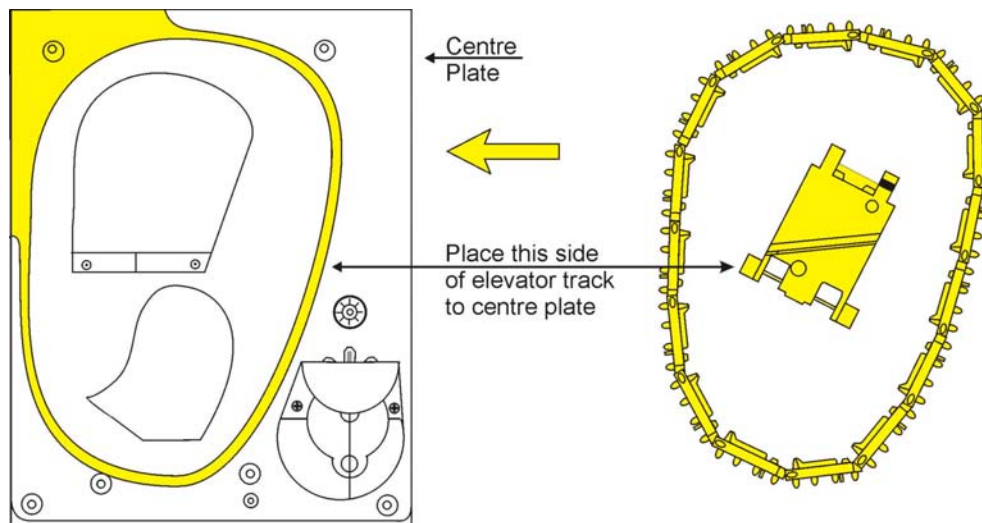

Figure 14: Track Plate positioning
1. The yellow shaded area, in Figure 14, is the 'track plate' guide path.